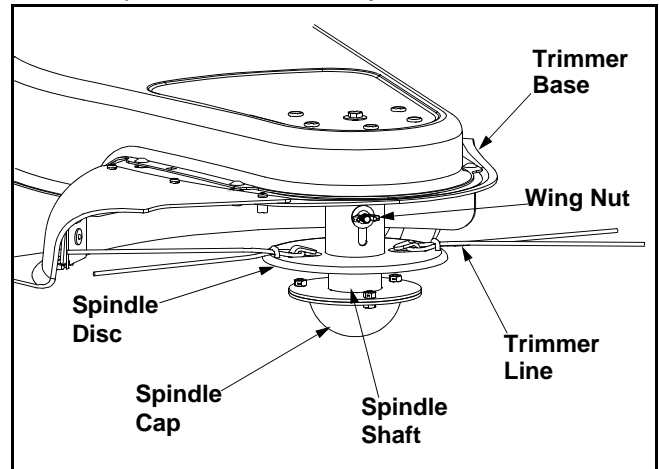

Figure 6
- The trimmer line is connected to the spindle disc, which can be raised or lowered. See Figure 6.
- Loosen the wing nuts and slide the spindle disc to the highest position and tighten to secure in position. Refer to Figure 6.